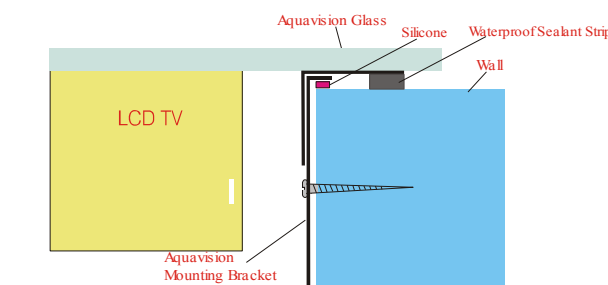

Fig 2. Installation Schematic::
5. Carefully sink this back box into the hole that you checked earlier ensuring that the silicone gives a good waterproof seal against the wall and fasten securely, being careful not to distort the box when tightening the fixings. You must take care not to bend or damage the sides or outer flanges of the box as this could potentially hinder any water-proofing qualities and thus void any warranty. Note it is not advisable to use raised border tiles under the edge of the bezel frame (See Fig. 2).